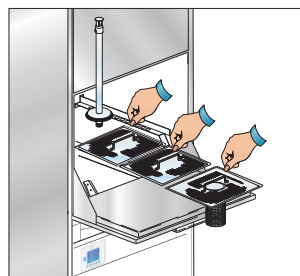

Fig. 1
1. Check if the pump suction filter is properly inserted in its seat on the wash-tank bottom (Fig.1). This filter must be cleaned every 20 wash cycles or whenever necessary. **\*Do not use the appliance without the filters.**
Put the surface filters in place (Fig.1), shut the dishwasher door, turn the water valve *open* and turn the main power switch *on*.